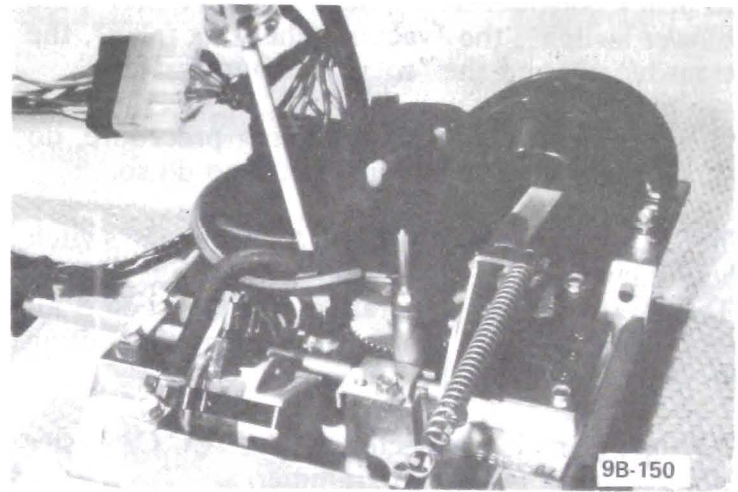

Figure 9B-232 Feedback Potentiometer Adjustment
8. Using a blade-type screwdriver, slip the shaft of the feedback potentiometer fully counterclockwise to its stop (see Figure 9B-232 for location of the feedback potentiometer in the programmer). The vacuum motor mechanism will be "in" the vacuum motor indicating full heat operation.
Refer to Figure 9B-313 for identification of all programmer components. Before attempting to repair or adjust a programmer, locate the "output shaft", the "feedback potentiometer", the "vacuum motor", the "blower switch", the "vacuum checking relay", the "transducer", and the "rotary vacuum valve".
b. Using a screwdriver, slip the shaft of the feedback potentiometer, turning the shaft fully counterclockwise (gear does not move). See Figure 9B-232. The vacuum motor should now be in the "Full Heat" position. (The vacuum motor mechanism will move into the vacuum motor.)